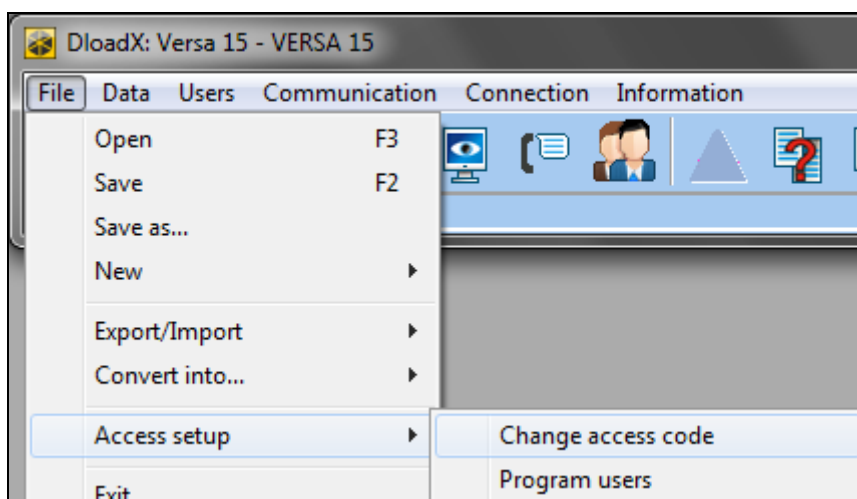

Fig. 5. Starting the procedure of changing the DLOADX program access code.
1. Click on “File” → “Access setup” → “Change access code” (Fig. 5). Dialog window with a field for entering the code will be displayed.
You can enter additional program access codes and define the rights of users using those access codes (“File” → “Access setup” → “Program users” – see: Fig. 5).